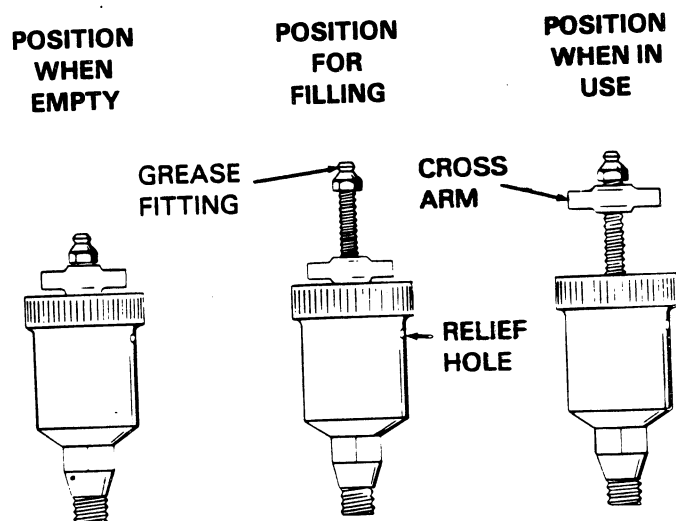

Figure 4. Automatic Lubricating Grease Cup
Fill the grease cup (16) through the grease fitting with No. 2 lithium base grease until grease escapes from the relief hole. Turn the grease cup arm counterclockwise until it is at the top of the stem; this will release the spring to apply grease to the seal (see Figure 4).